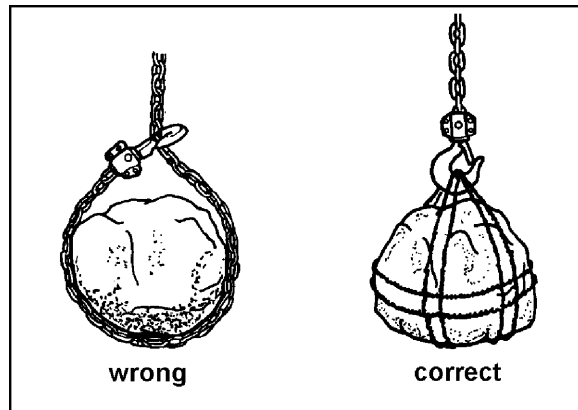

Figure 8
- When lifting loads, hook the load with slings. **Do not use the lever hoist chain as a sling** (Figure 8).